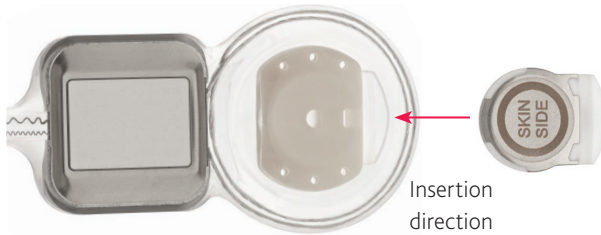

Figure 27: Replacement magnet cassette insertion direction
- the engraving SKIN SIDE (or MRI) is facing up – see *Figure 27* below